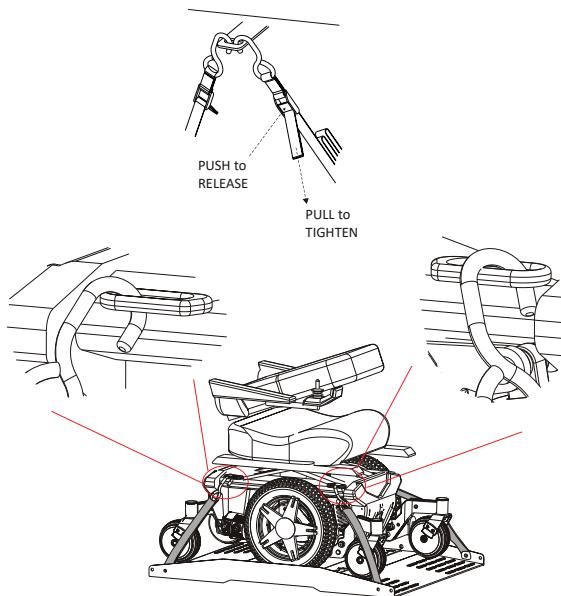

Figure 3-4
2. Pull the loose end of each strap tight. To release, simply press the release tab on the cam buckle, pull and remove the hooks. *See Figure 3-4.*